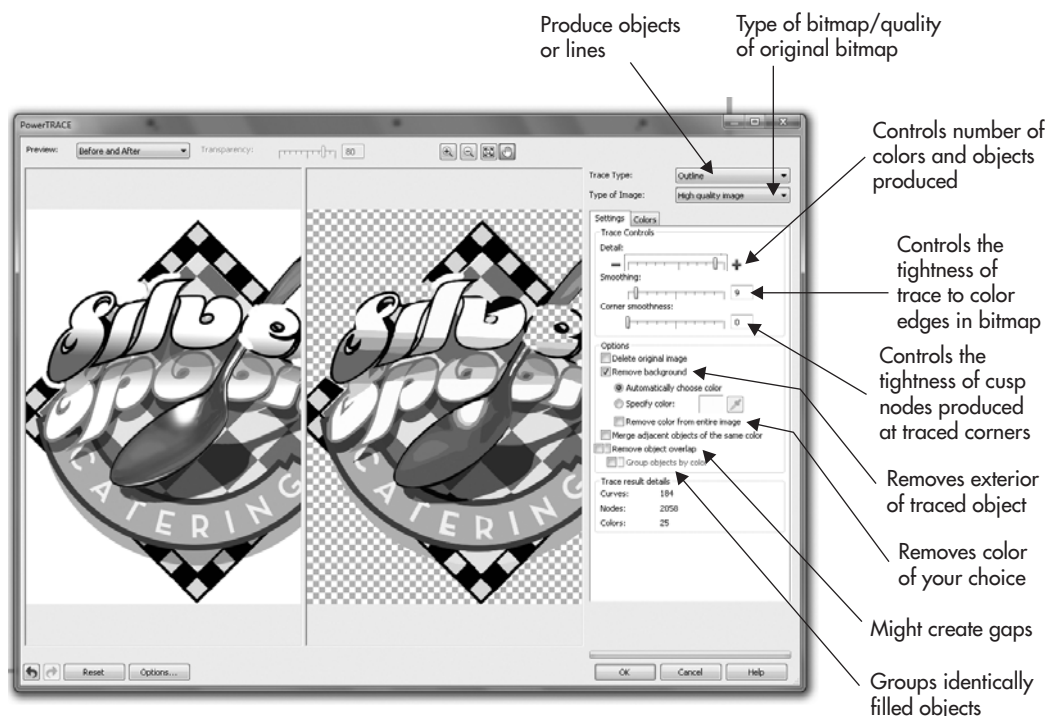

FIGURE 24-11
- **Settings** This tab, shown in Figure 24-11, is used to define how tightly and accurately you want PowerTRACE to render the bitmap as vector object.